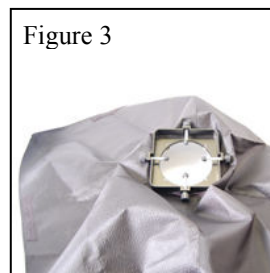

Figure 3
Step 2: Arrange the softbox tent silver side down over the spring ring. Stretch the elastic center of the softbox tent around the spring ring until it fits around the square part of the spring ring and above the circular bottom. Refer to Figure 3 for a look at this completed step.